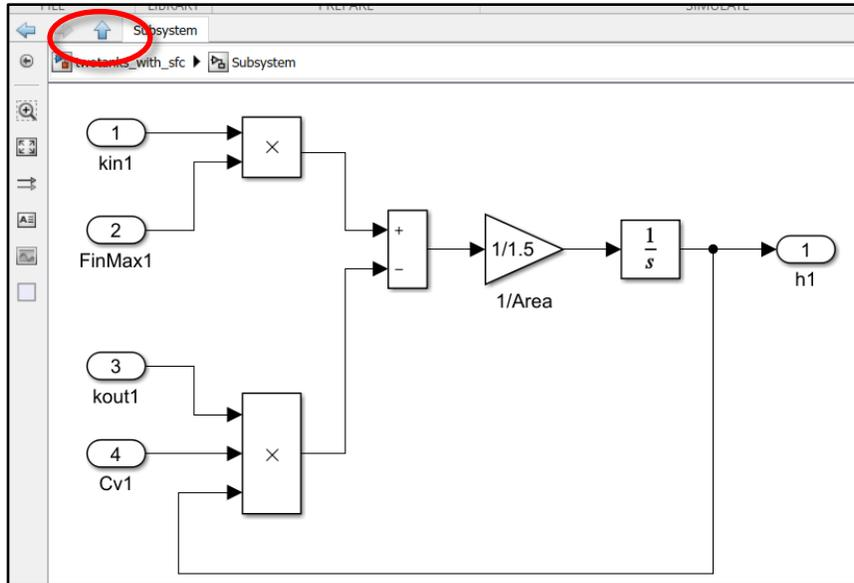

Figure 9. After renaming inports and outputs.
- d) Relabel the input ports In1, In2, In3 and In4 to be kin1, FinMax1, kvout1 and Cv1, respectively. Also, rename the outputport Out1 to be h1. See Figure 9.
- e) Click [Up-arrow] to return to the parent level of the model. See Figure 9.